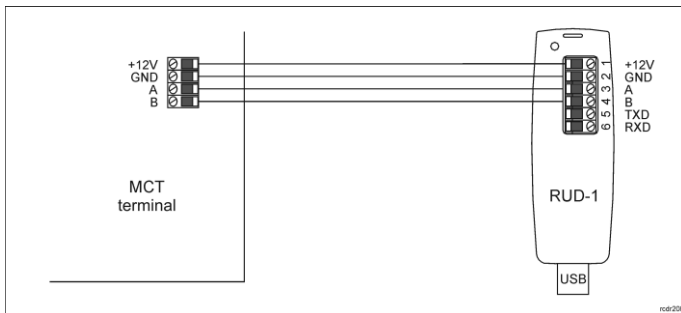

Fig. 1 Connection of MCT terminal to RUD-1 interface
1. Connect the device to RUD-1 interface (fig. 1) and connect the RUD-1 to computer's USB port.
The update requires connection of reader to computer with RUD-1 interface (fig. 1) and starting RogerISP software. The latest firmware file is available at www.roger.pl.
1. Connect the reader to RUD-1 interface (fig. 1) and connect the RUD-1 to computer's USB port.